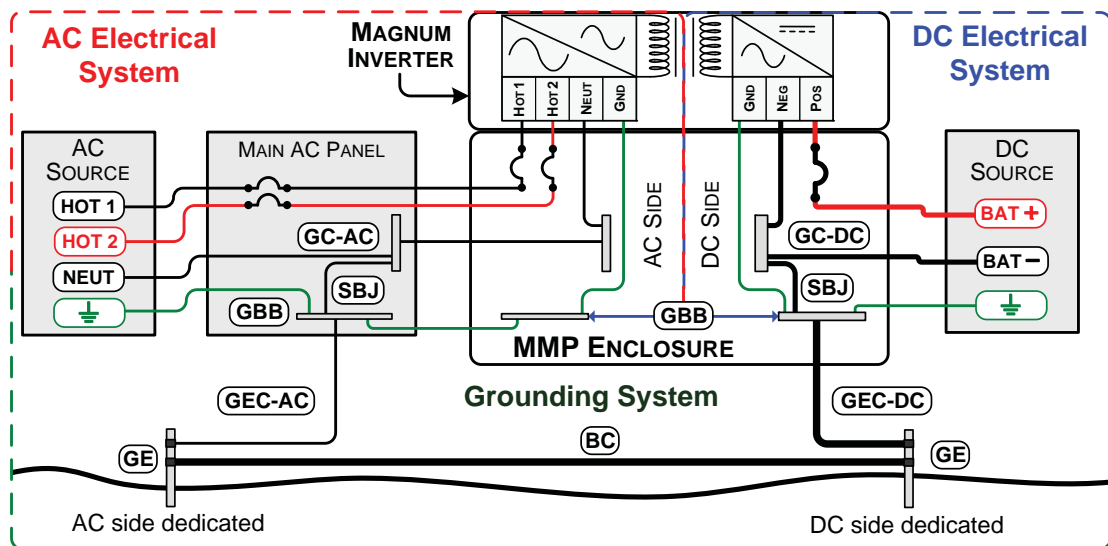

Figure 3-21, Multiple Connections to DC Ground Rod (Method 3)
3. **Multiple Connections to Ground - Multiple Electrodes (Method 3):** This method uses a separate grounding electrode for the DC system and the AC system (see Figure 3-21). In this method - since there are multiple connections to the DC Grounding Electrode (GEC - DC) - the size of the DC grounding electrode conductor cannot be smaller than the largest conductor in the DC system (usually the battery-to-inverter cable).